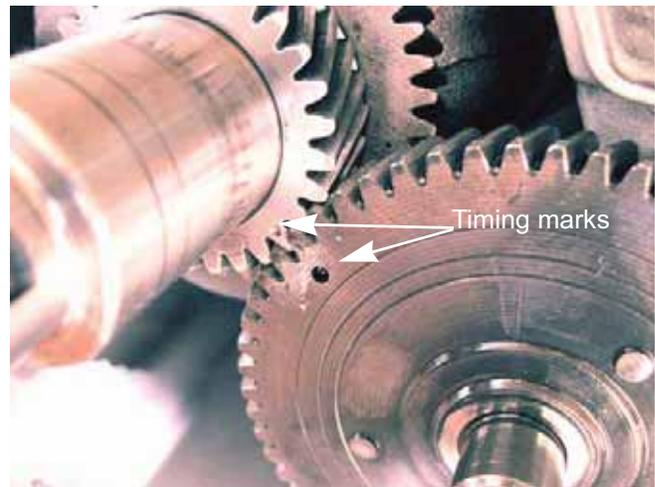

Figure 10.22
- 8c. Insert the cam shaft while aligning the timing marks. See Figure 10.22.